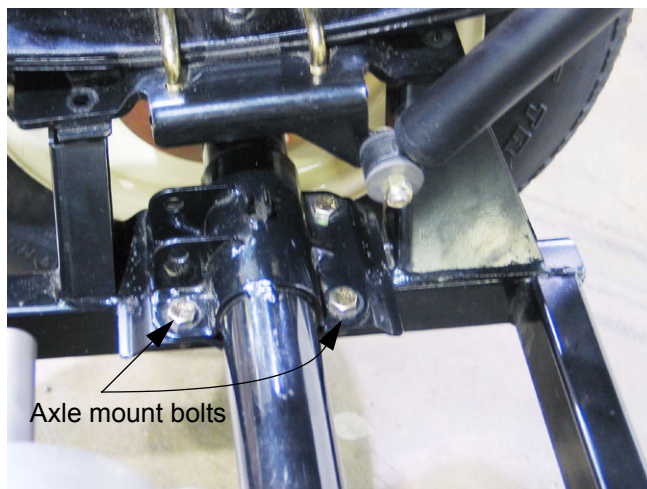

Figure 6.20
- 6.20. Remove the bolts that hold the axle tubes to the engine/transaxle cradle using a pair of 9/16" wrenches. See Figure 6.20.